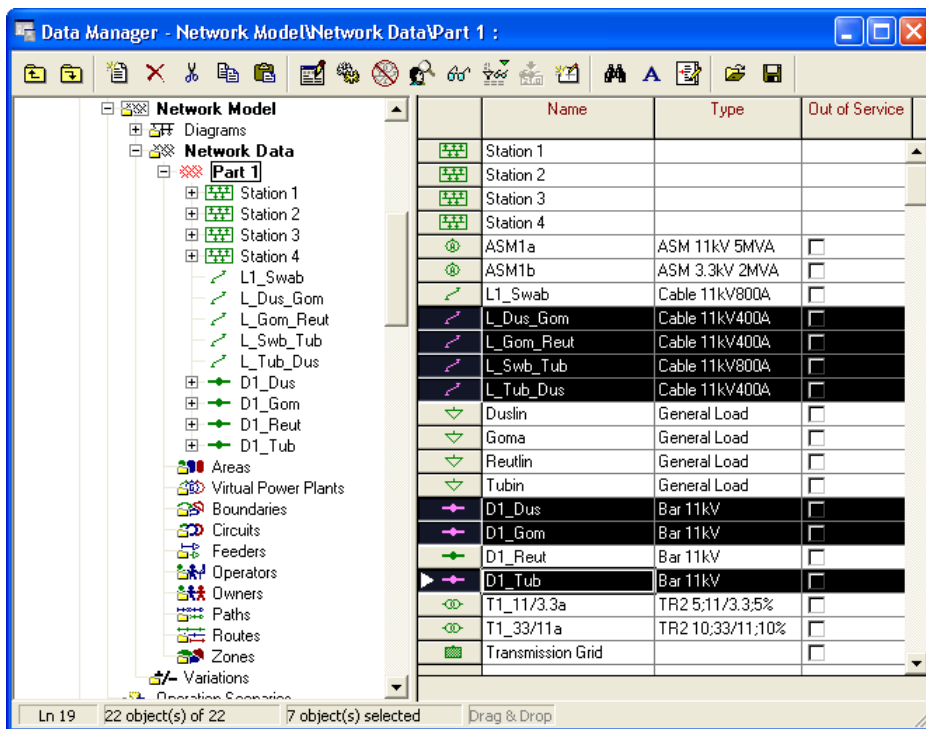

Fig. E.3: Data Manager window with the new lines and terminals (after editing them)
- ▶ In the database tree window left click the grid folder "Part 1" (figure E.3).
The browser shows now amongst other parameters, the names and types of the elements, as in figure E.3. The types of the three new terminals ("Terminal", "Terminal(1)", and "Terminal(2)") are not set yet. This is what we are going to change now: